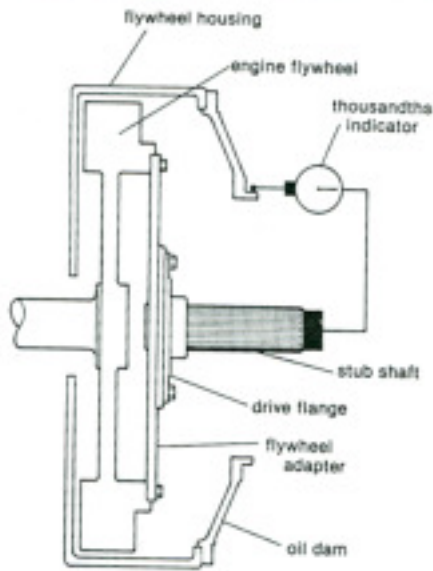

Figure 3. Dial Indicating Oil Dam Pilot O.D.
5. Dial indicate oil dam pilot O.D as shown in figure 3. Record reading. Total indicator reading must not exceed .007 inch.